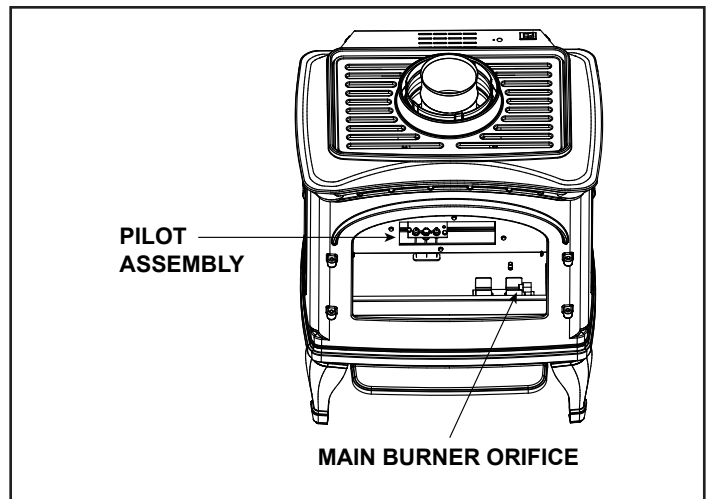
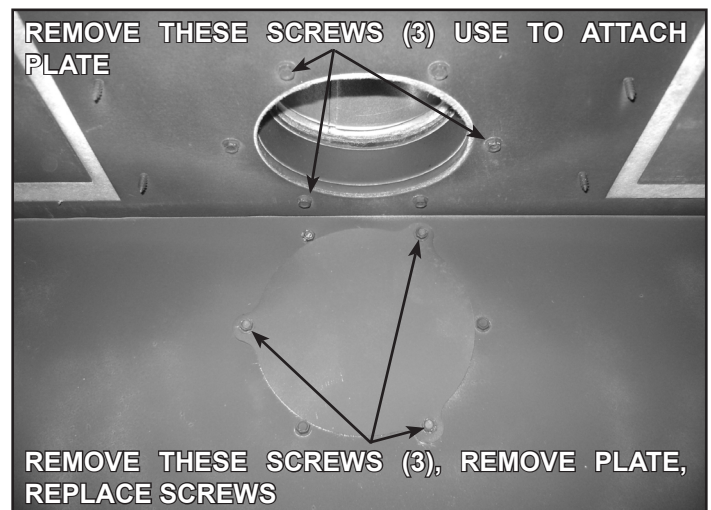

Figure 6.14
Figure 6.15
15. Using the 3/8" open end wrench, replace the main burner orifice with the orifice included in the conversion kit. Use appropriate orifice for gas type, Figure 6.14.
17. On inside of firebox, remove plate and gasket on rear of firebox by removing three screws as shown in Figure 6.14. Discard gasket. Replace screws on rear of firebox. Remove three screws as shown in Figure 6.15. Attach plate and new gasket, included in kit, with three screws.